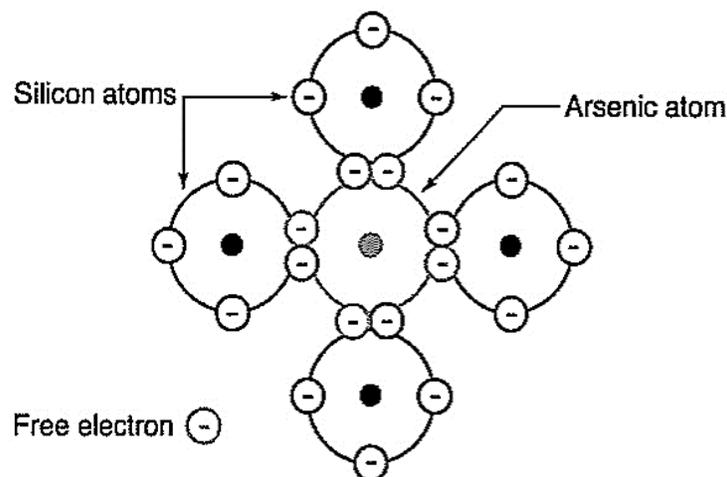

Figure 10.5: *N-Type* Semiconductor Material
- 10-42 The elements arsenic and antimony are examples of impurities that produce materials with an increased number of free electrons. Figure 10.5 shows the internal structure of a semiconductor material made of silicon with arsenic as an impurity. Notice that the presence of the arsenic atom produces a free electron in the material.